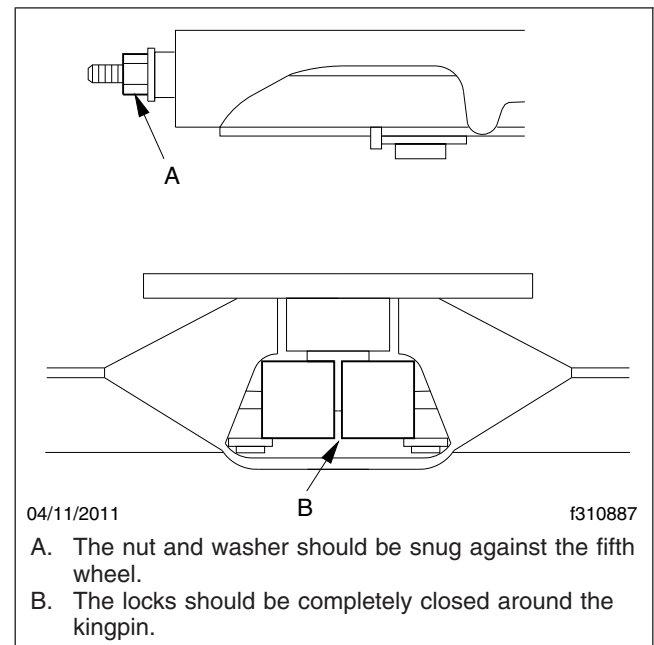

Fig. 4, Holland Fifth Wheel Properly Closed
3. Using a Holland Kingpin Lock Tester, part number TF-TLN-1000 or TF-TLN-5000, check the operation of the locking mechanism by opening and closing the locks. See Fig. 4.